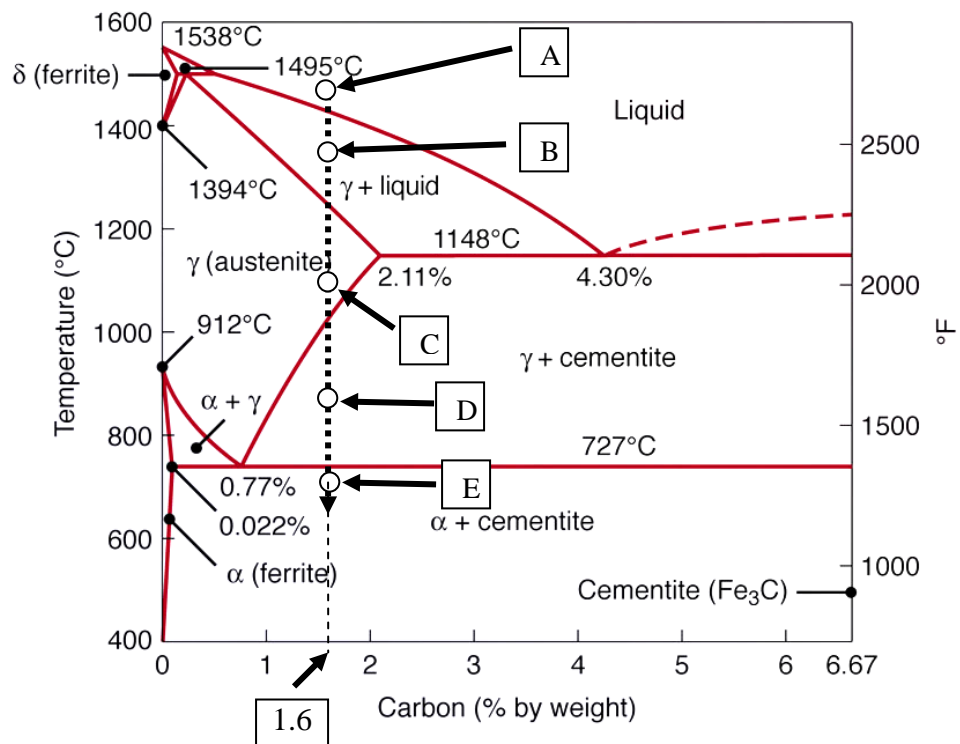

Figure Q2[b]
- [b] **Figure Q2[b] shows the phase diagram for Fe-C (Iron-Carbon). The dotted line shows a cooling path of a volume of Fe-C steel passing through points A, B, C, D and E. From the cooling path given, estimate the phase fraction and carbon content of each phase at each specified point.**